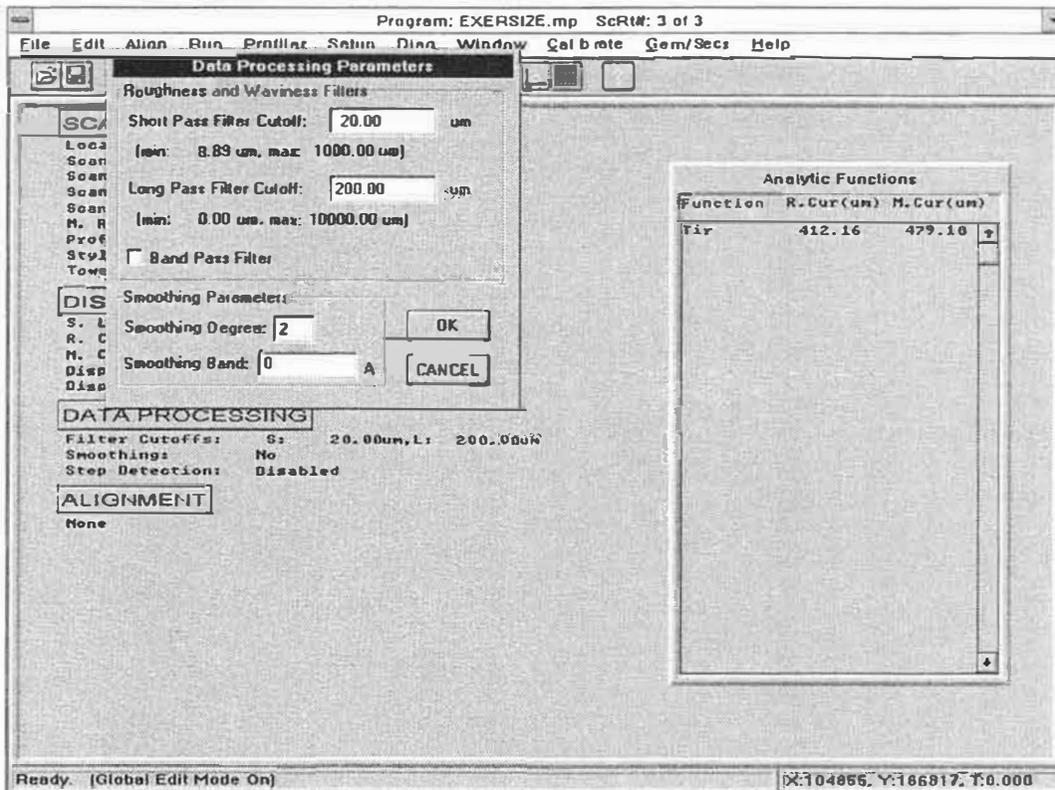

Figure 6-11. Smoothing Parameter
4. Click-on "Analysis" from the Data Plot Screen menu bar, and click-on "Smoothing" from the Analysis Menu. A dialog box will be displayed for entering smoothing parameters (see Figure 6-11).